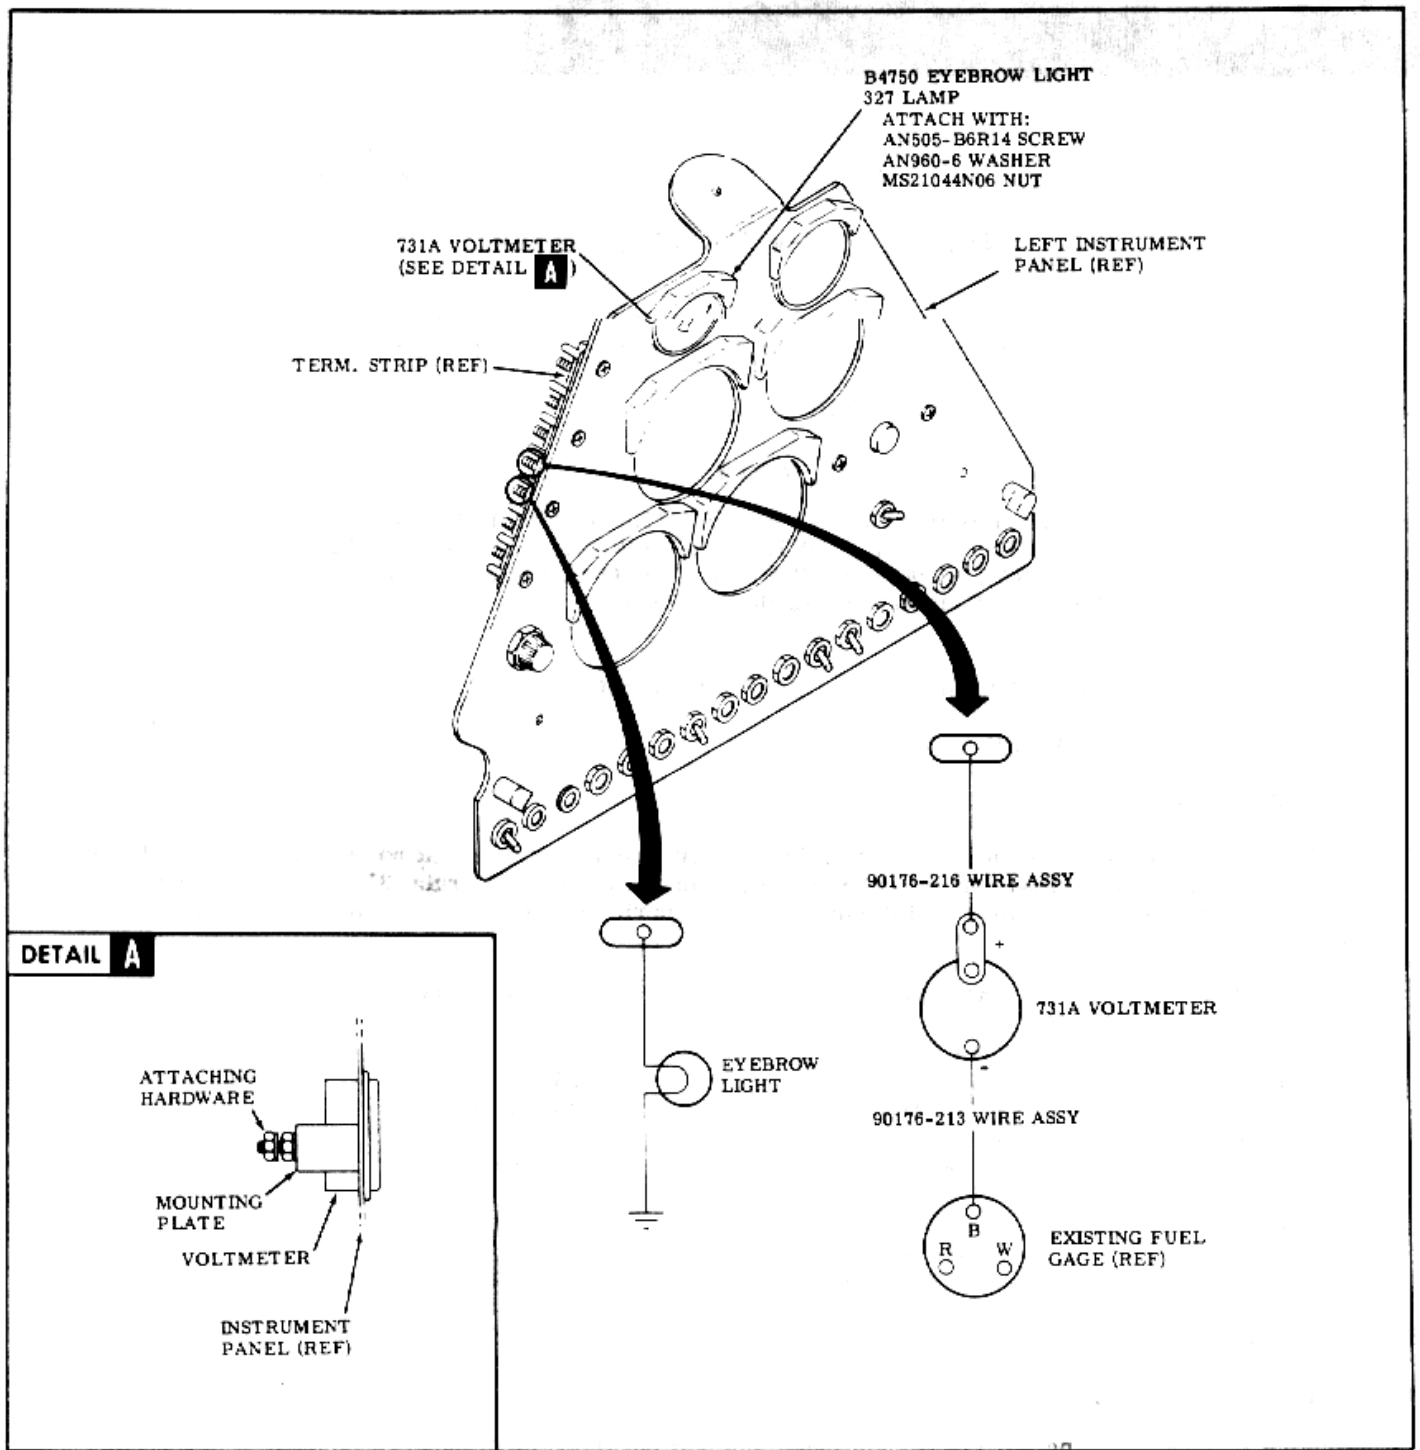

Figure 1.
3. Remove voltmeter mounting plate (furnished with voltmeter), install 731A voltmeter on left instrument panel and reinstall voltmeter mounting plate (see Figure 1).
4. Install B4750 eyebrow light, 90176-213 wire assembly and 90176-216 wire assembly (see Figure 1).
5. Connect voltmeter and eyebrow light to airplane electrical system (see figure 1).